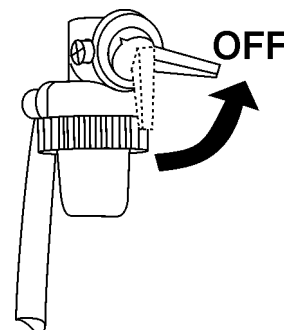

Figure 28. Engine Fuel Valve Lever (OFF Position)
5. Place the engine **fuel valve lever** (Figure 28) to the "OFF" position."